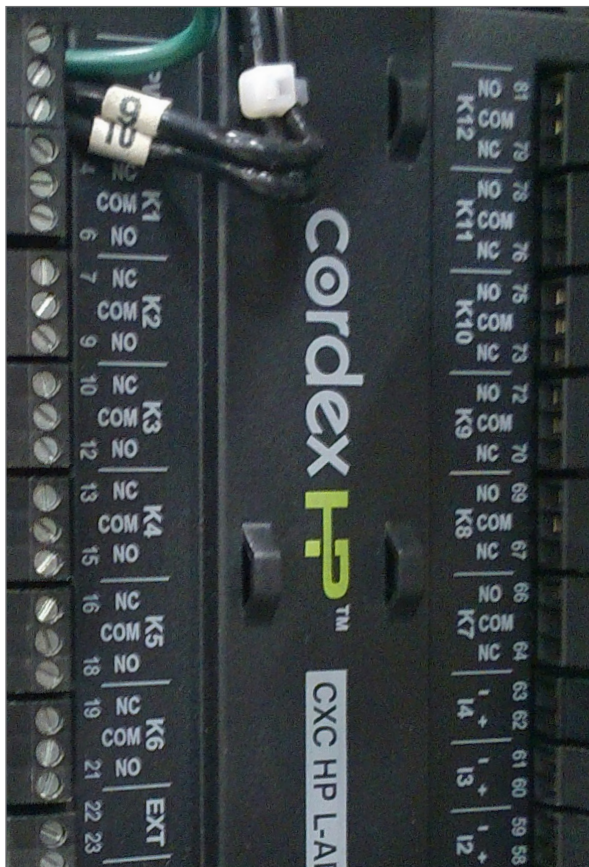

Figure 29 — Alarm Relay Pinouts
1. Use the Form C relay contacts on the L-ADIO to extend various alarm or control signals to an external site monitor. Figure 29 shows the L-ADIO module layout. Table I lists the factory default settings.